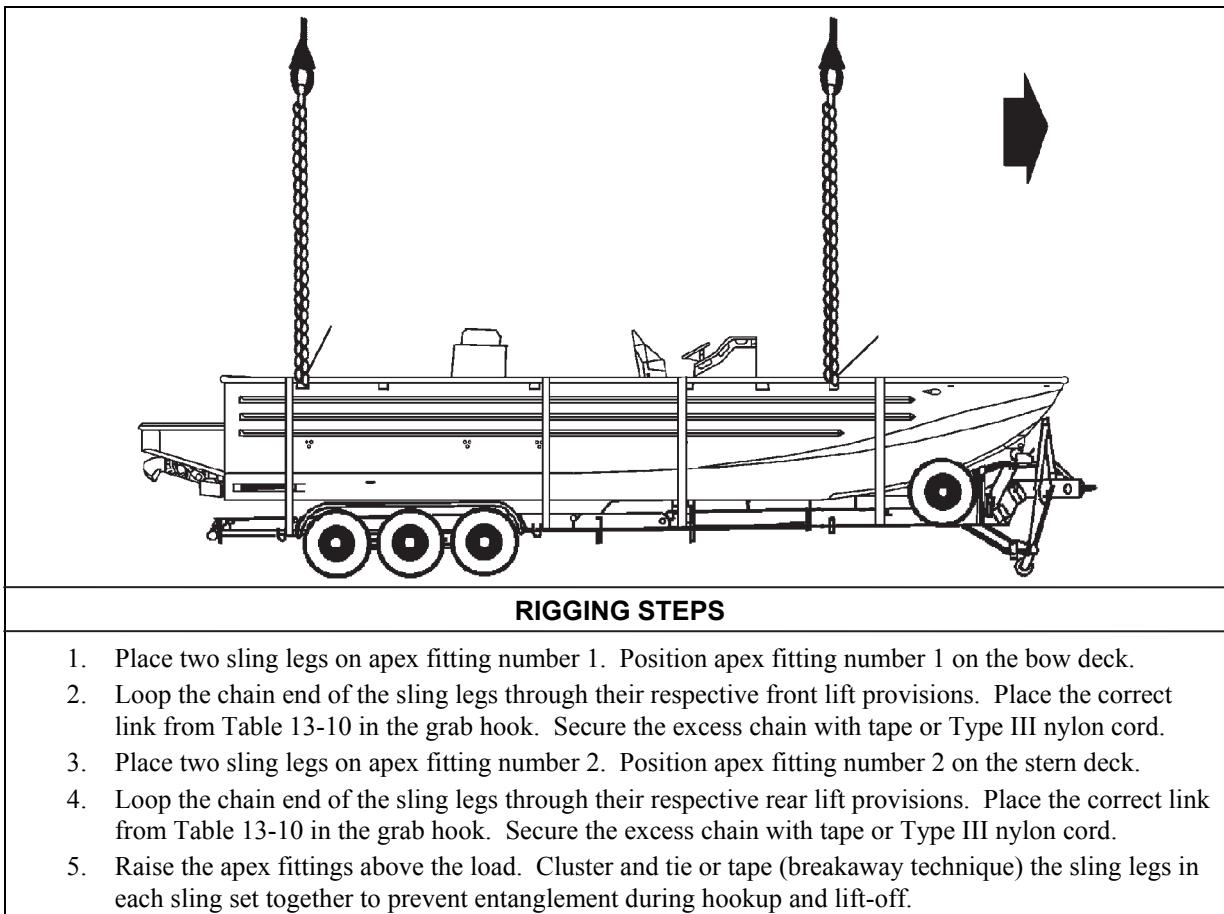

Figure 13-10. Special Operations Craft-Riverine (SOC-R) with SOC-R Trailer
- **Rigging.** Rig the load according to the steps in Figure 13-10.